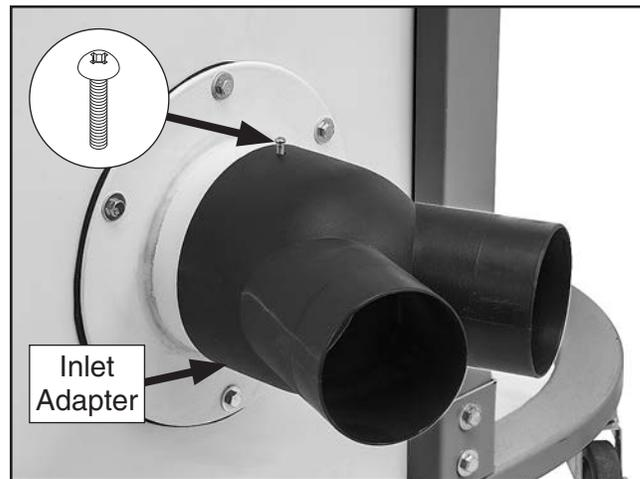

Figure 29. Adapter attached to dust intake port.
25. Attach 6" x 4" x 4" adapter to dust intake port on motor/impeller housing with (1) 10-24 x 1/2" Phillips head screw (see **Figure 29**).